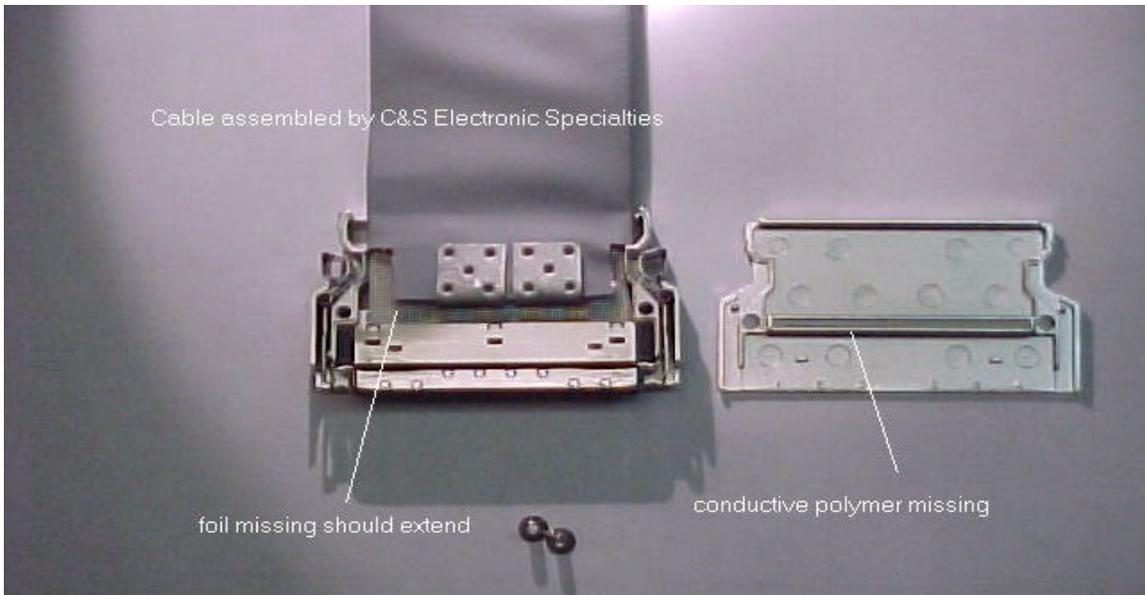

Figure 1
- The first example is a 68-conductor cable assembly, which has a major problem since there is no ground from the case to the foil shield. See figure 1.